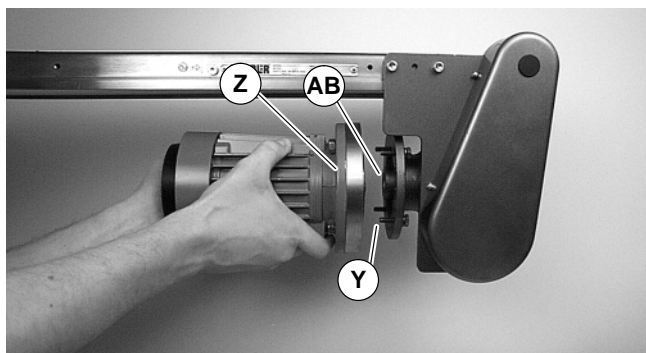

Figure 25
6. With key (AB of Figure 25) in keyway, slide motor with adapter flange (Z) and gear reducer together. Install screws (Y) and tighten.